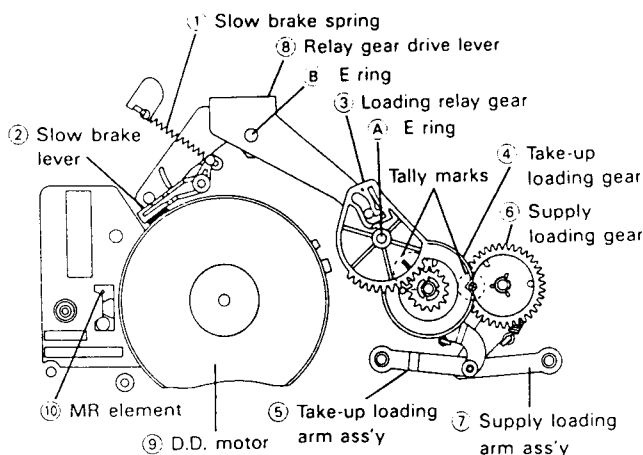

Figure 1-31.
2. In reassembling, match the tally marks on the gears, as shown in Fig. 1-31
1. Place the relay gear drive lever in the unloading state as shown in Fig. 1-31.
2. Set the relay shifter lever ④ to the main chassis; the shifter lever should be adjusted to the reverse guide spring hole in the main chassis. Then place the master cam so that the cut-off part of the boss ⑥ should face the direction of arrow  $\Rightarrow$  ⑦.
3. Place the half-loading reciprocating lever ① so that its cam follower comes in the outermost cam groove. Now attach the E ring ④.